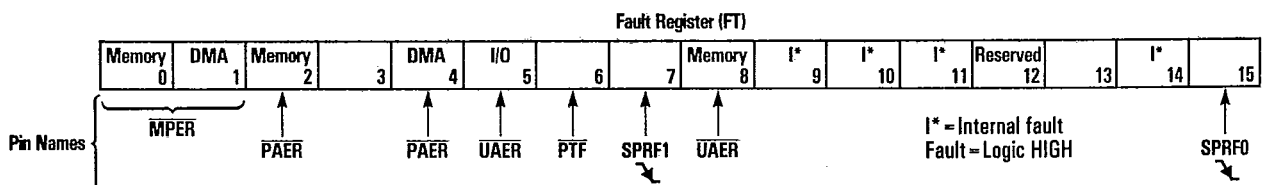

Figure 3. Fault Register Bit Assignments
Fault Register (FT)—This 16-bit register is used to capture and hold both internal and user implemented external faults. Setting any one or more faults in FT will cause a logic HIGH (machine error) interrupt request. Once a fault is set in FT, it may only be cleared via an XIO command. Figure 3 defines FT bit assignments.